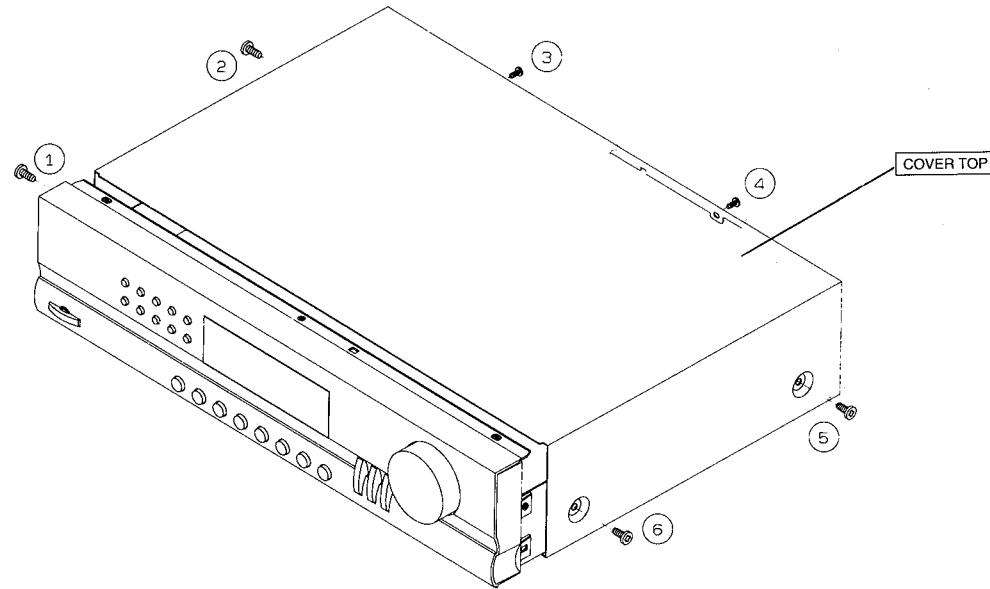

Fig. 1
① COVER TOP REMOVAL
1. Remove screws ① to ⑥ in Fig. 1, and then remove the cover by sliding it to its rear a little.